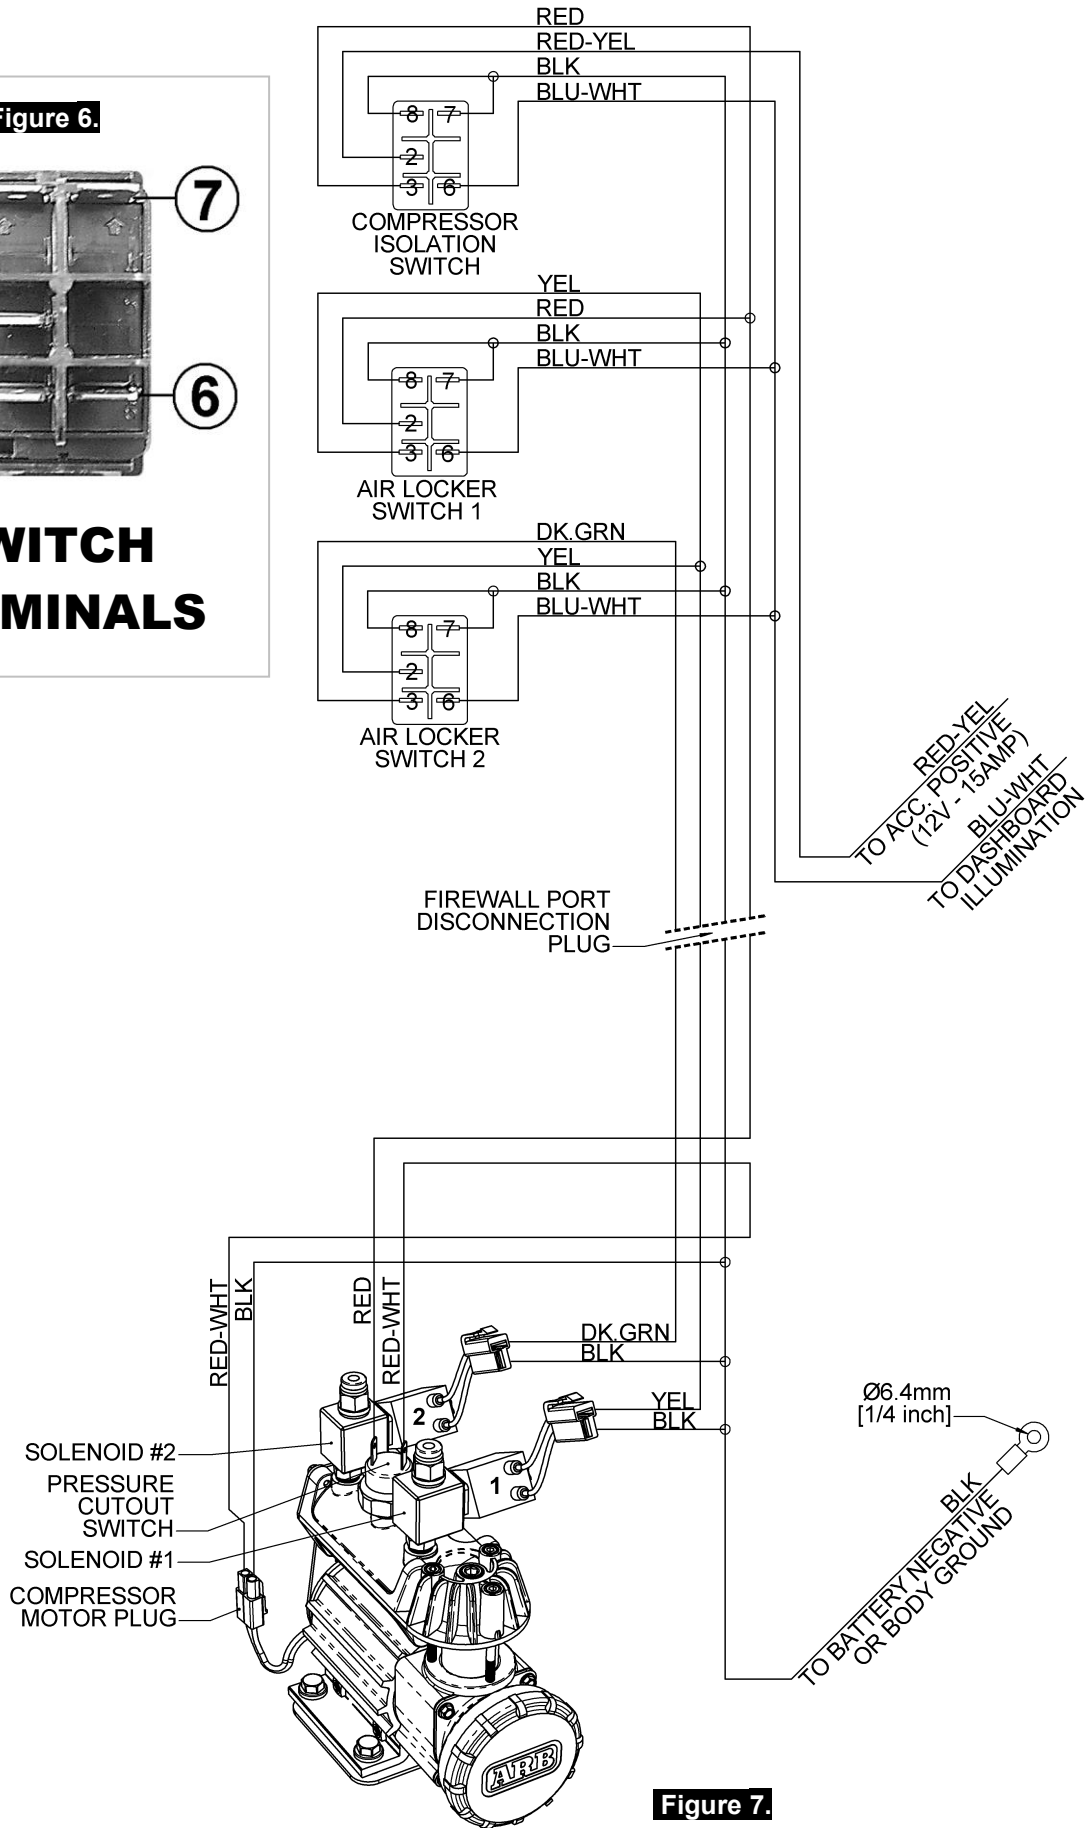

Figure 7.
When wiring an ARB compressor switch, *Air Locker* pressure switch, *Air Locker* actuator switch(es) and *Air Locker* solenoid(s) to an ARB Air Compressor, all connections can easily be set up using only the supplied wiring loom (ARB #180408 - Fig.7.)
- Consulting the wiring diagram (Fig.7.) for wire colors, and the switch terminal illustration (Fig.6.), plug each of the female spade terminals onto their appropriate switch terminal.
NOTE : Before attempting to troubleshoot a malfunctioning compressor, always make sure that the compressor manifold has been de-pressurized, all connections have been made according to the wiring diagram (Fig. 7), the vehicle's ignition is in the accessory power position, and that the isolating switch has been turned 'ON'.